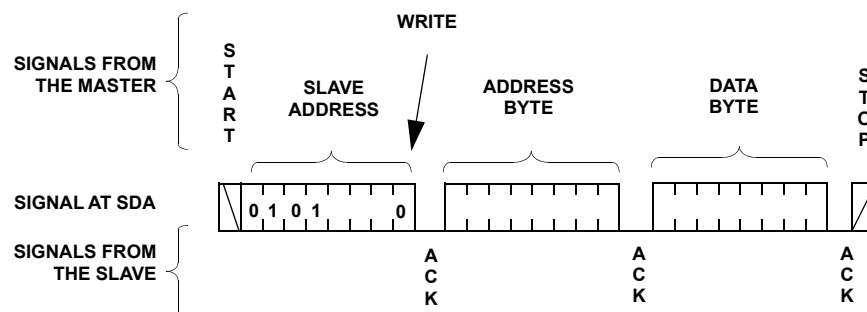
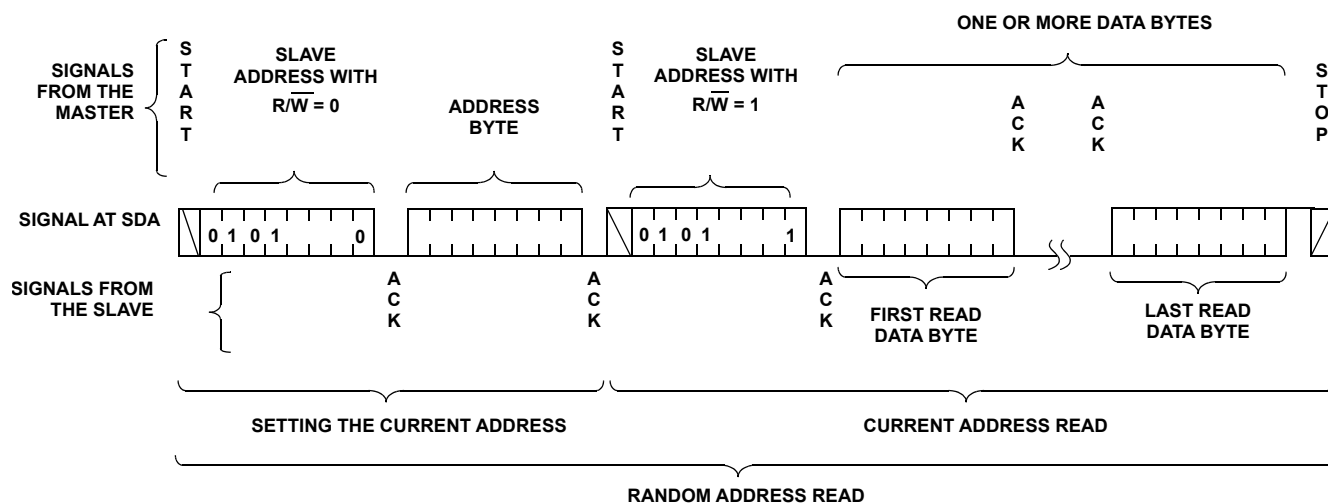

FIGURE 8. BYTE WRITE SEQUENCE
FIGURE 10. MOVE/READ SEQUENCE
14. Access the desired DR or WCR using a new write or read command (see Figure 8 for write and Figure 10 for read.)
For any Byte Write operation, the X9252 requires the Slave Address byte, an Address Byte, and a Data Byte (see Figure 8). After each of them, the X9252 responds with an ACK. The master then terminates the transfer by generating a STOP condition. At this time, if the write operation is to a volatile register (WCR, or SR), the X9252 is ready for the next read or write operation. If the write operation is to a nonvolatile register (DR), and the $\overline{WP}$ pin is high, the X9252 begins the internal write cycle to the nonvolatile memory. During the internal nonvolatile write cycle, the X9252 does not respond to any requests from the master. The SDA output is at high impedance.
Move/Read operation consists of a one byte, or three byte instruction followed by one or more Data Bytes (see Figure 10). To read an arbitrary byte, the master initiates the operation issuing the following sequence: a START, the Slave Address byte with the R/W bit set to "0", an Address Byte, a second START, and a second Slave Address byte with the R/W bit set to "1". After each of the three bytes, the X9252 responds with an ACK. Then the X9252 transmits Data Bytes